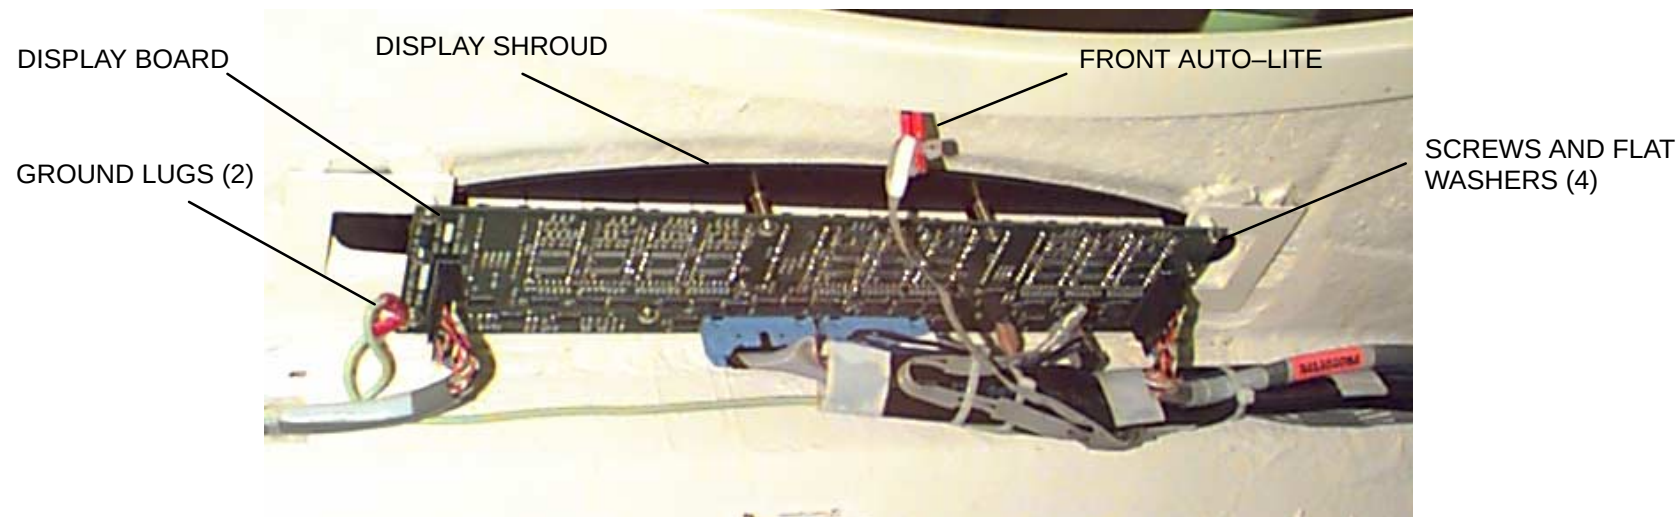

FIGURE 246 Gantry Display Assembly (as viewed from underneath gantry front cover).
3. Remove cable connectors from display board plugs P1, P2, P3, P4, P5, and P6. Remove cable connector from front auto-lite. Remove screw and flat washer securing two ground lugs to display board, and remove ground lugs. Refer to Figure 246.
2. Install four screws and flat washers securing the display board to the gantry “U” brackets. Install two ground lugs to display board with screw and flat washer. Refer to Figure 246.